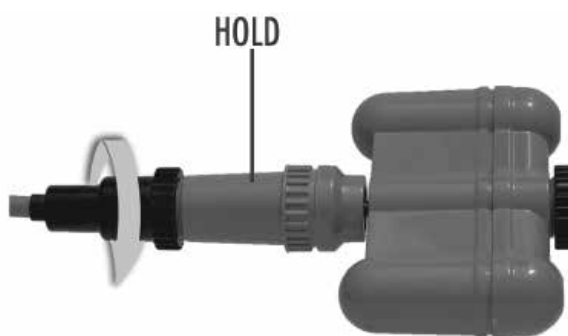

Figure S6B
5. Hold the swivel and hand tighten the black collar from the power cord to secure connection properly (Figure S6B).